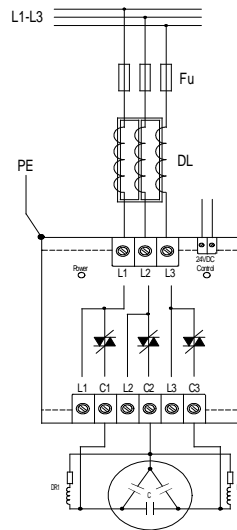
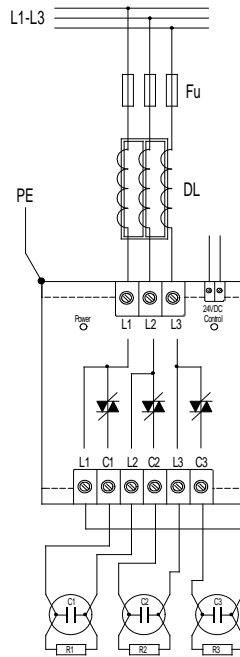

Fig. 2a
Fig. 3
- Katka 20-T – a module with natural cooling. It switches phases L1, L2, and L3. It is designed for star- or delta-connected three-phase loads. Wiring diagram in Figure 2a,b. It can be further wired as in Figure 3 (less the fan and auxiliary voltage).
- Katka 80-T – a module with forced cooling. It switches phases L1, L2, and L3. It is designed for star- or delta-connected three-phase loads. Wiring diagram in Figure 2a,b. It can be further wired as in Figure 3.
The wirings in Figure 1 and 2 or 4 and 5, respectively, are traditional ones, wiring in Figure 3, resp. 6 is not so usual and therefore it is suitable to compare these wirings, mentioning their respective advantages and disadvantages, especially from fast reactive power compensation's point of view.
- **Fig. 2a, 5a** – higher heat loss, three switches. Capacitors (or other load) are delta-connected to phase-to-phase voltage. All of three phase voltages switched on/off. The same applies to reactive power compensation as in Fig. 1, 4. **Therefore, this connection is not recommended for fast compensation systems !**
- Fig. 3, 6** – Three switches, loaded with 1.7 times smaller current in compare with preceding wirings for the same switched power. This wiring features the lowest heat loss of all the wirings, therefore higher loads can be switched. Load is distributed to three single-phase subloads and connected to phase-to-phase voltage. If used for reactive power compensation, the capacitors get charged to maximum 1.4 times the voltage and thus can be reconnected immediately. There is no fast discharge circuit, use of additional discharge resistors R (33 k Ω / 13W) eliminating supply voltage fluctuations is recommended. Due to this, the wiring is often more economical to the wirings Fig 1, 4. **Therefore this wiring is recommended for fast compensation systems.**
- For recommended values of detuned compensation systems see Tab. 2; the vaules are valid for wirings Fig. 3 and 6. Program for compensation system design (*PFC_Design.xls*) available at manufacturer (see www.kmbystems.eu).
Tab. 2: Compensation System Components' Values for Standard Capacitor Value Line (valid for wirings Fig. 3, 6)
3 pieces of discharge resistors 33 kΩ/13 W are delivered with each module as standard accessory. The resistors are suitable for use in wirings Fig. 3,6 (R). The resistors can be connected directly to the capacitors terminals.